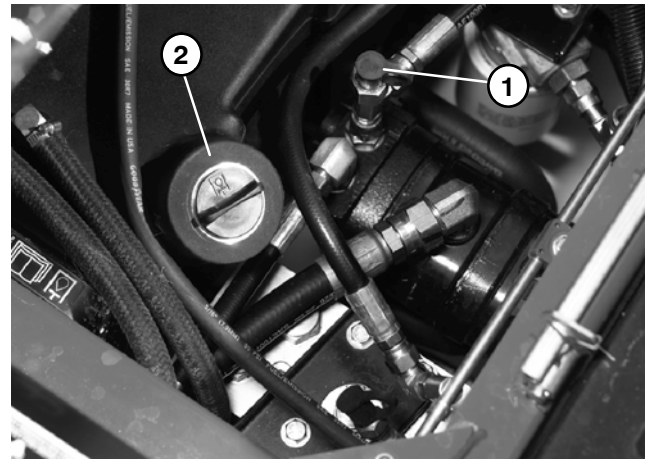

Figure 32
3. Raise seat to gain access to hydraulic test fitting. Connect a 5,000 PSI gauge to lift circuit test port (Fig. 32). Route gauge hose to allow seat to be safely lowered.